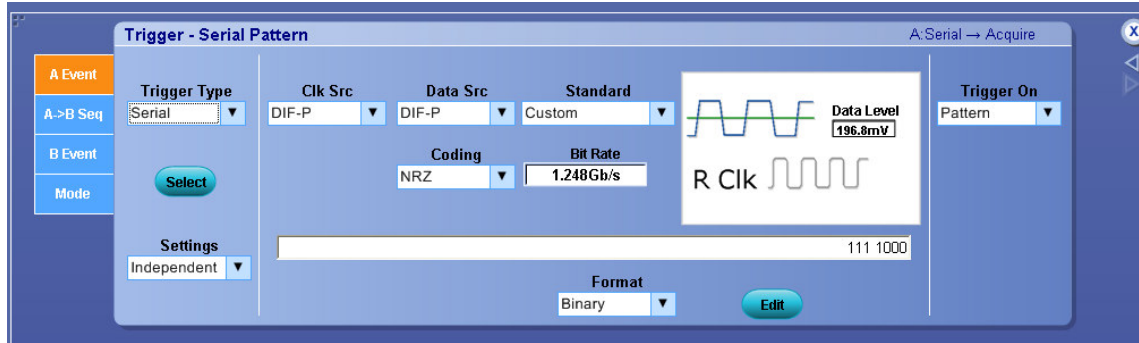

Figure 1: Trigger setup
5. Go to Trigger menu, change the trigger Type to Serial, Source to DIF-P (Ch1), Bit rate to 1.248 GB/s, Pattern length is 0111100011 (Binary) 10 bit. See Figure 1.